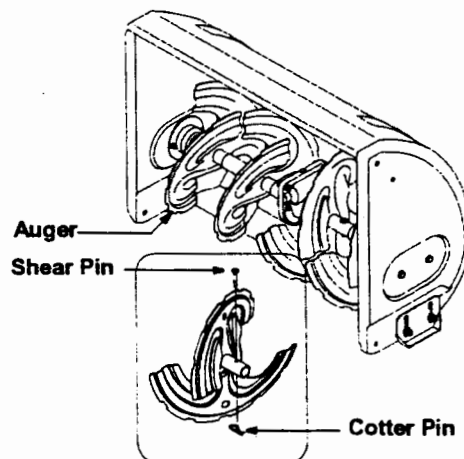

Figure 15
The augers are secured to the spiral shaft with two shear pins and cotter pins. See Figure 15. If you hit a foreign object or ice jam, the snow thrower is designed so that the bolts will shear.
2. Replace the pins if needed. Two replacement shear pins and cotter pins have been provided with the snow thrower. Spray an oil lubricant into shaft before inserting new pins and securing with new cotter pins. See Figure 15.